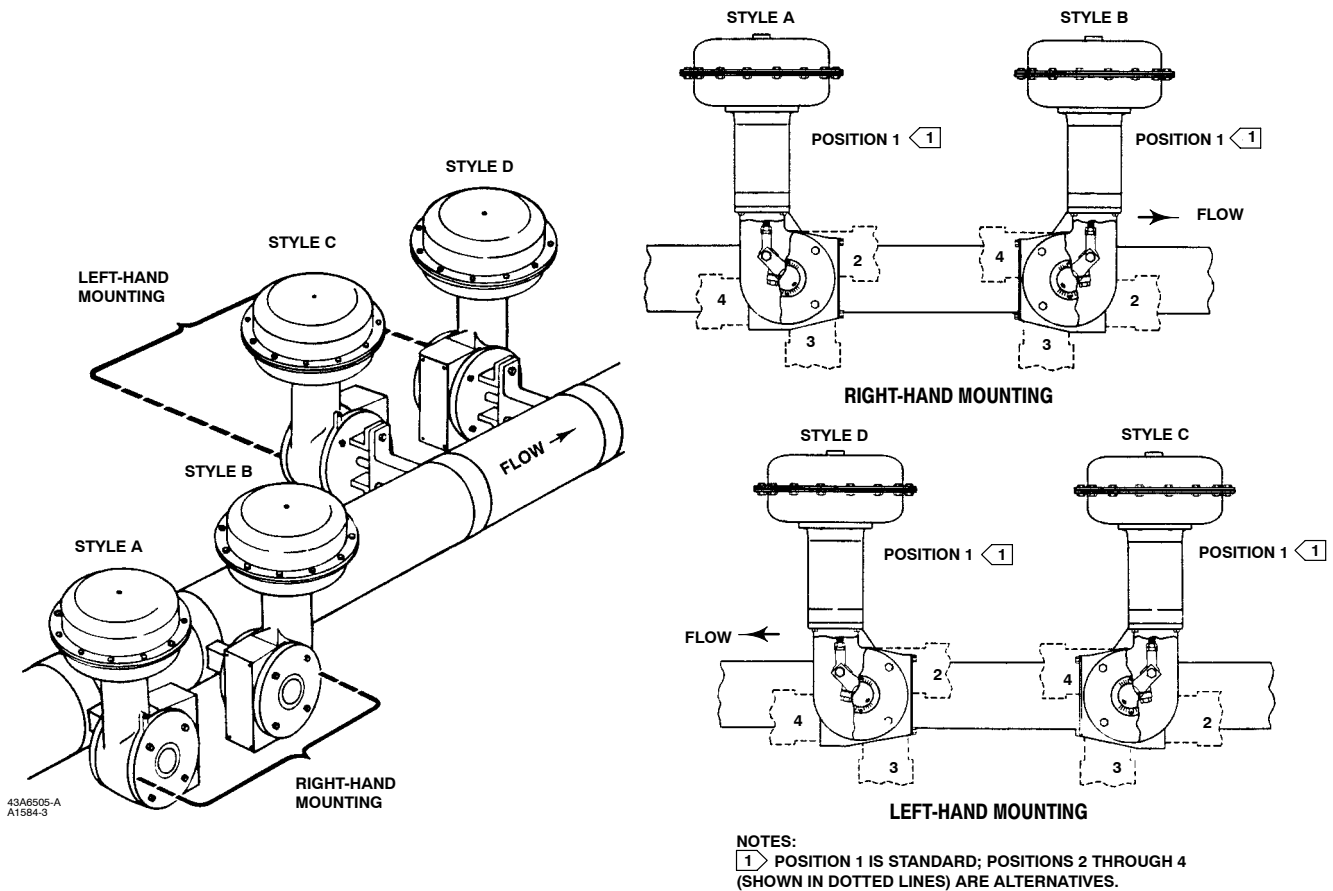

Figure 3. Mounting Styles and Positions for the Type 1051 and 1052 Actuator
<p>Operation</p> <p>Direct Acting: Increasing loading pressure extends the diaphragm rod out of the spring barrel</p> <p>Service: Type 1051: For on-off or throttling service with positioner Type 1052: For on-off or throttling service with or without a positioner</p> <p>Actuator Sizes</p> <p>Type 1051: ■ 40 and ■ 60 Type 1052: ■ 40, ■ 60, and ■ 70</p> <p>Maximum Diaphragm Sizing Pressure⁽¹⁾</p> <p>Size 40: 4.5 bar (65 psig) Size 60: 2.8 bar (40 psig) Size 70: 3.8 bar (55 psig)</p> <p>Maximum Diaphragm Casing Pressure⁽³⁾</p> <p>Size 40: 5.2 bar (75 psig) Size 60: 3.4 bar (50 psig) Size 70: 4.5 bar (65 psig)</p> <p>Maximum Valve Shaft Rotation</p> <p>90 degrees rotation (standard) travel stop, or 60 degrees (optional) travel stop for Type 1051 and 1052 actuators, or 75 degrees (optional) travel stop for Type 1052 actuators</p> <p>Valve Shaft Diameters, mm (Inches)</p> <p>Size 40: ■ 12.7 (1/2), ■ 15.9 (5/8), ■ 19.1 (3/4), ■ 22.2 (7/8), ■ 25.4 (1), or ■ 31.8, (1-1/4) Size 60: ■ 19.1 (3/4), ■ 22.2 (7/8), ■ 25.4 (1), ■ 31.8 (1-1/4), ■ 38.1 (1-1/2), ■ 44.5 (1-3/4), or ■ 50.8 (2)</p>	<p>Size 70: ■ 31.8 (1-1/4), ■ 38.1 (1-1/2), ■ 44.5 (1-3/4), or ■ 50.8 (2)</p> <p>Stroking Time</p> <p>Dependent on actuator size, rotation, spring rate, initial spring compression, and supply pressure. If stroking time is critical, consult your Fisher sales office</p> <p>Material Temperature Capabilities⁽²⁾</p> <p>Nitrile Diaphragm: -40 to 82°C (-40 to 180°F) Silicone Diaphragm: -40 to 149°C (-40 to 300°F) Nitrile O-Rings: -40 to 82°C (-40 to 180°F), Nitrile O-rings are used in optional top-mounted handwheel, adjustable down travel stop, and adjustable up travel stop assemblies</p> <p>Travel Indication</p> <p>Graduated disc and pointer combination located on actuator end of valve shaft</p> <p>Pressure Connections</p> <p>Standard: 1/4 inch NPT female thread Optional: ■ 1/2 or ■ 3/4 inch NPT female, and ■ 3/4 inch NPT female thread for pipe-away vent</p> <p>Mounting Positions</p> <p>See figure 3.</p> <p>Approximate Weights</p> <p>See table 2.</p> <p>Additional Specifications</p> <p>For casing pressure ranges and for material identification of the parts, see the Parts List</p>
1. Unscrew cap screws and washers (keys 34 and 63), and remove the cover (key 33).
2. Refer to figure 3 for available mounting styles and positions. When mounting on a Vee-Ball Design V150, V200 or V300 valve, check the valve manual to determine if it is Series B. The actuator is normally positioned vertically with the valve in a horizontal pipeline (see figure 3).
Valve construction can change the flow direction for a control valve assembly. It is important to observe the flow direction in all valve applications **before** installing the valve in the pipeline (see figure 3). Refer to the appropriate valve bulletin or instruction manual.